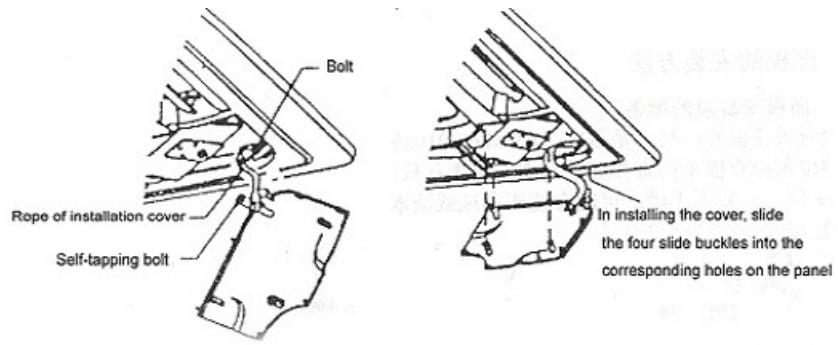

Fig 15
- (1) Fix the rope of the installation cover board at the bolt of the cover board(See the left one of Fig 15);
- (2) Slightly push the cover into the panel (see the right one of Fig 15)